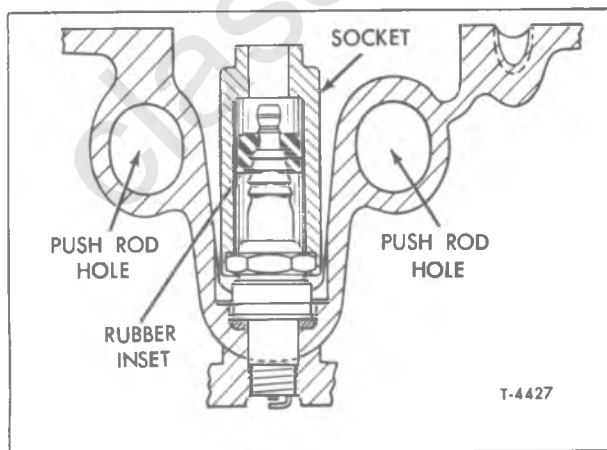

Figure 14—Wrench Socket Installed on Plug (Typical)
2. Using a suitable spark plug wrench socket, remove the spark plugs (fig. 14).